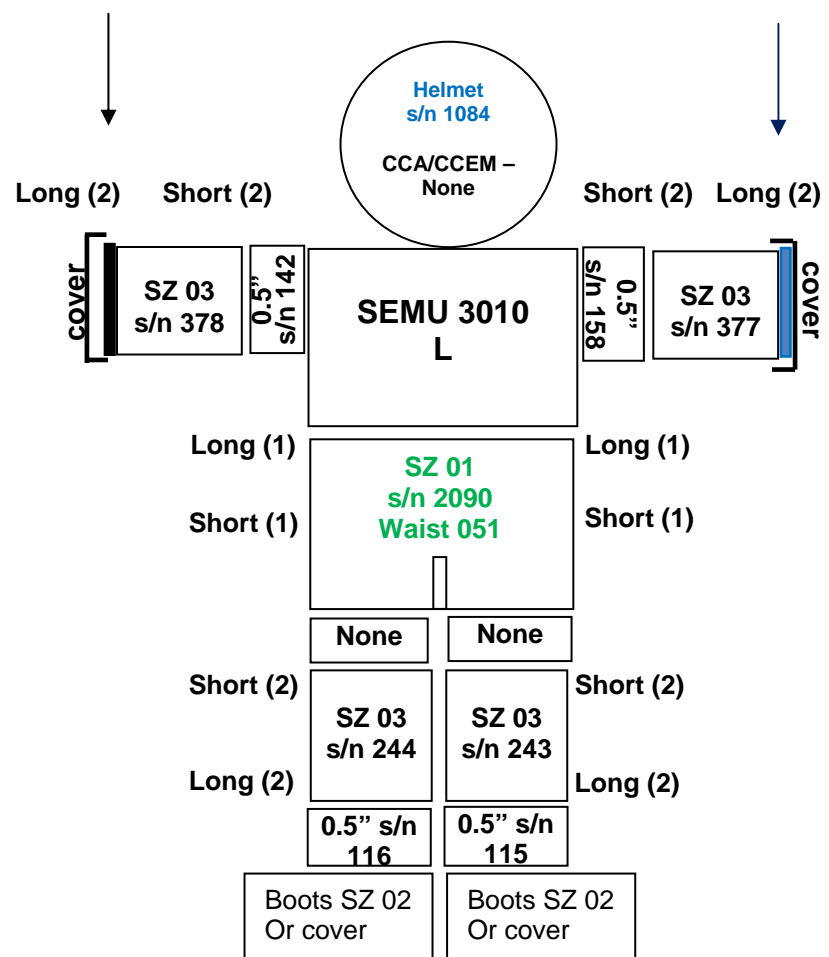

Figure 2 – EMU 3010 – Final Configuration
7. Reference STS-134 NOMINAL EMU SIZING {FS 12-27 & FS 12-28} (EMU CONTINGENCY PROCS) for EMU 3004 and EMU 3018; and figure 1, EMU 3010 – Initial Configuration and figure 2, EMU 3010 – Final Configuration